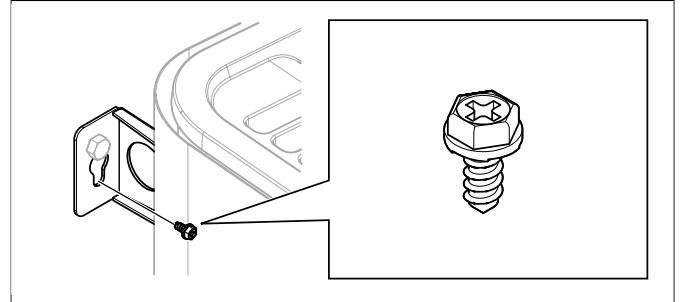

Figure 11: Lock screw for bracket
10. Lock the heater into place with the lock screw see **Figure 11**, Page 5.